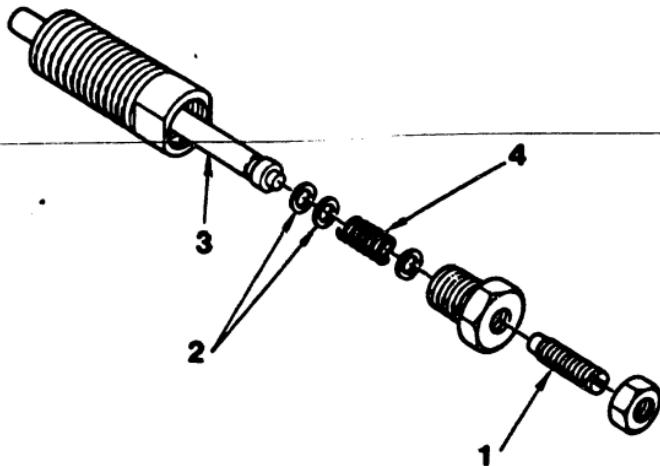

Fig. 54 Components of torque control device
3. Fig. 54 shows the components of the torque control device.